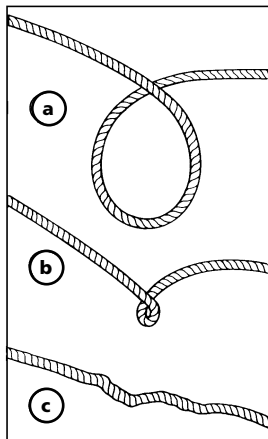

Figure 9
7. EMPÊCHEZ LES BOUCLES AVANT QU'ELLES NE SE PRODUISENT. (Voir la Figure 9.)